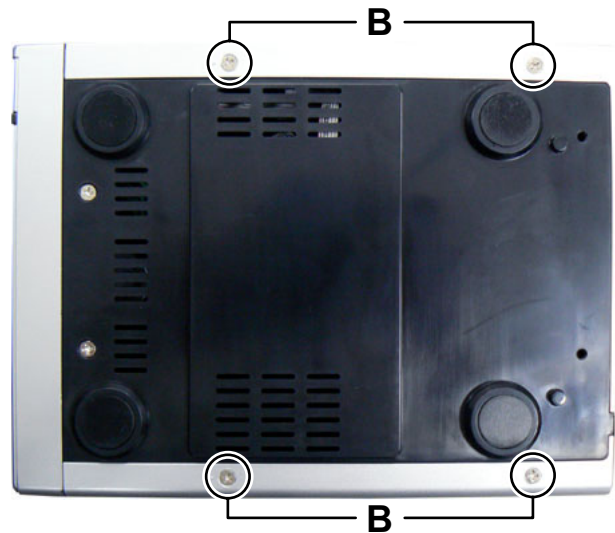

Fig.2
- (2) Remove the four screws **B** attaching the Top cover. (See Fig.2)